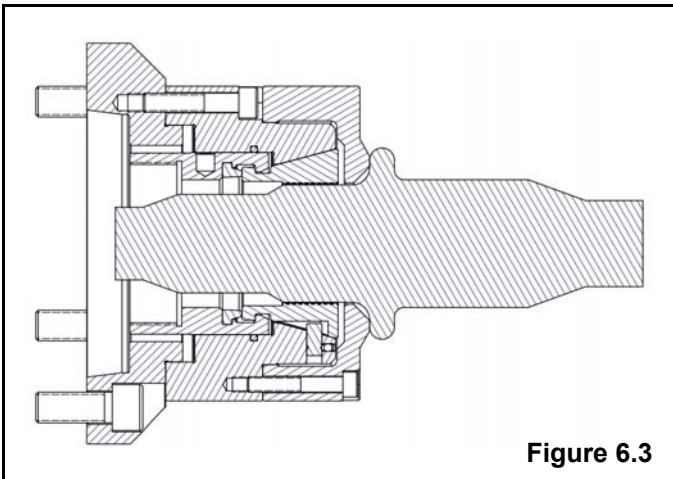
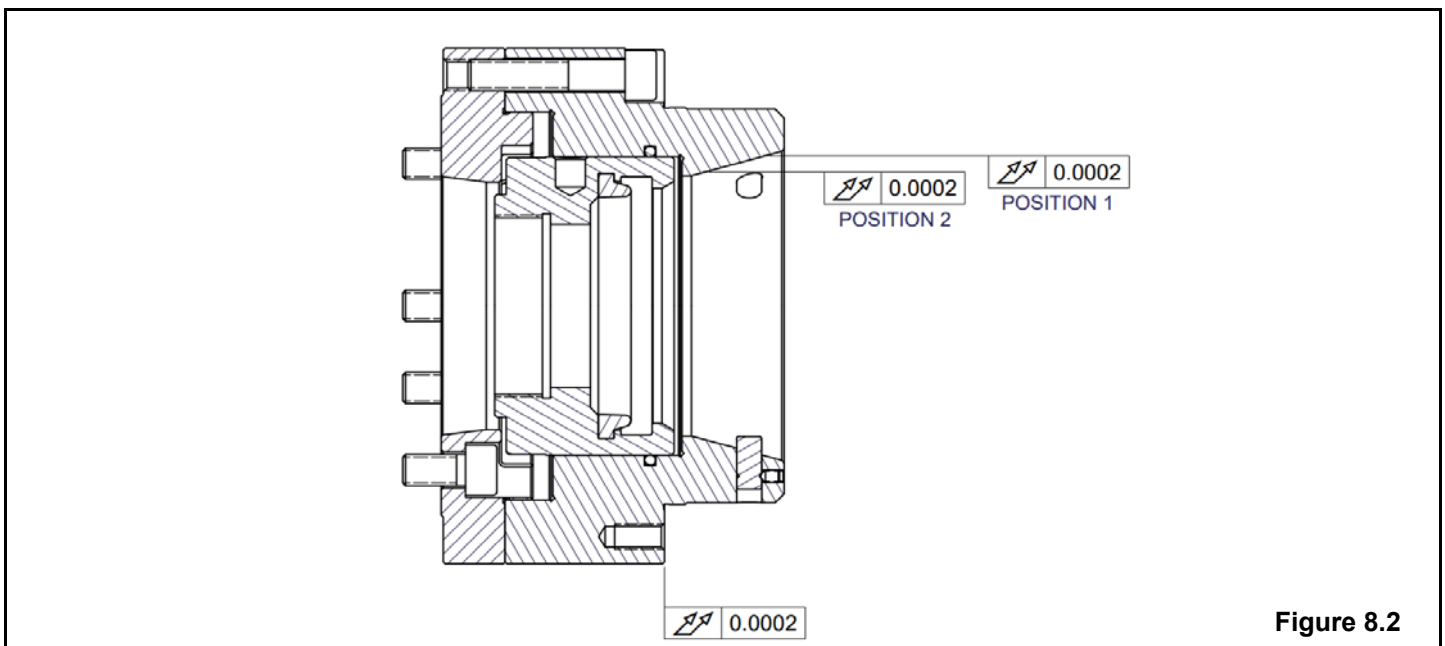
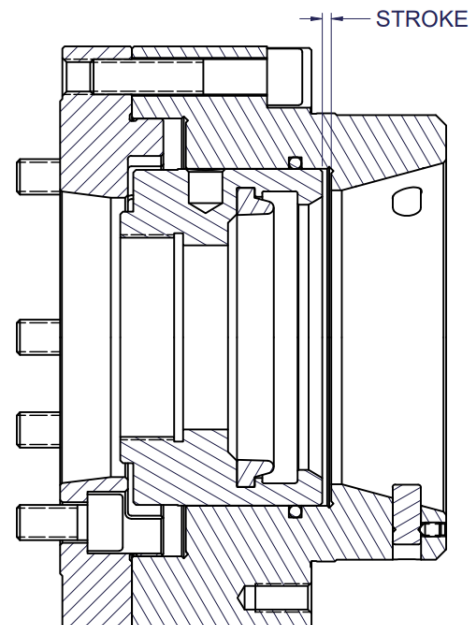

Figure 6.3
Figure 8.2
Figure 8.3
Part stops can be mounted outside CB-NB series collet chucks to provide end location of the workpiece. Figure 6.3 illustrates a typical part stop configuration using a stop plate mounted outside the collet chuck body. A reduced nose collet is commonly used for these applications, as clearance is necessary for the stroke of the collet, as described in Figure 8.3. Part stops are available for specific workpiece applications. Contact MicroCentric's technical sales staff for information.
2. Make certain that the mounting surfaces of the chuck body and adapter plate are clean and free of nicks or burrs that could prevent the proper seating of the chuck body. Also make sure the (4) radial adjusting screws are not protruding into the locating diameter of the chuck body.
6. Indicate the ID runout of the collet taper as shown in position #1 in Figure 8.2. Make adjustments to the (4) radial adjusting screws so that the runout of the collet taper is within .0002" (0.005mm).
7. Before tightening the mounting bolts, measure the runout of the collet taper on position #2 in Figure 8.2. If the chuck body is properly seated on the adapter plate, the runout measured on position #2 should be the same as position #1. If the runout measured in position #2 exceeds the runout of position #1 by more than .0001" (0.0025mm), remove the chuck body from the adapter plate and repeat this mounting procedure.
8. After the runout of the collet taper has been adjusted, tighten the mounting bolts to the torque specifications given in Section 4. Also make sure to tighten all (4) radial adjusting screws.
9. Actuate the draw tube to verify that the chuck is functioning correctly by measuring the stroke of actuator as shown in Figure 8.3.